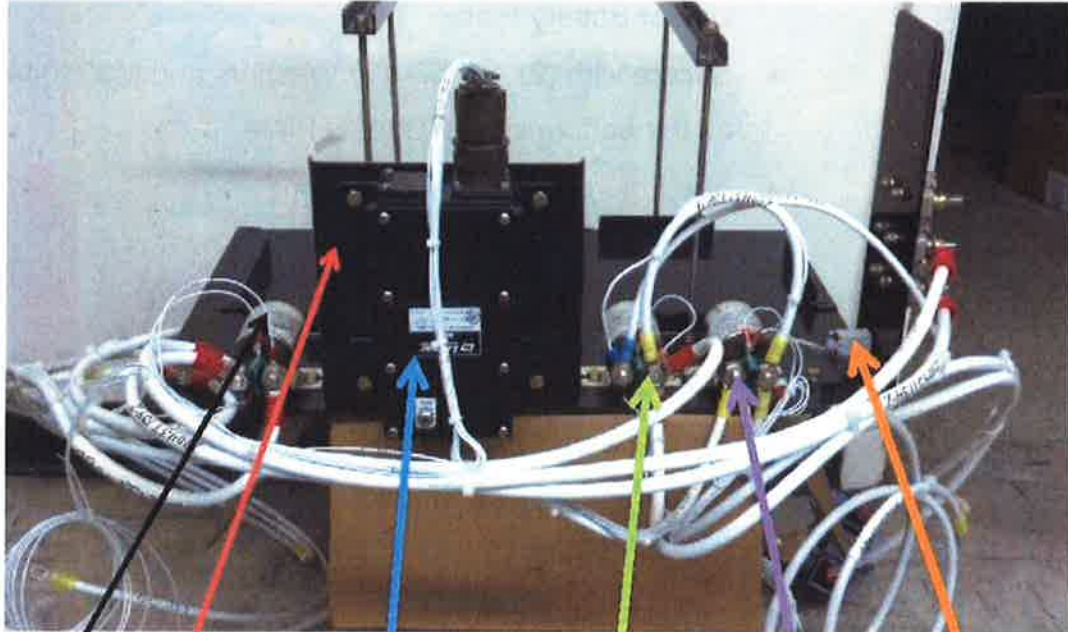
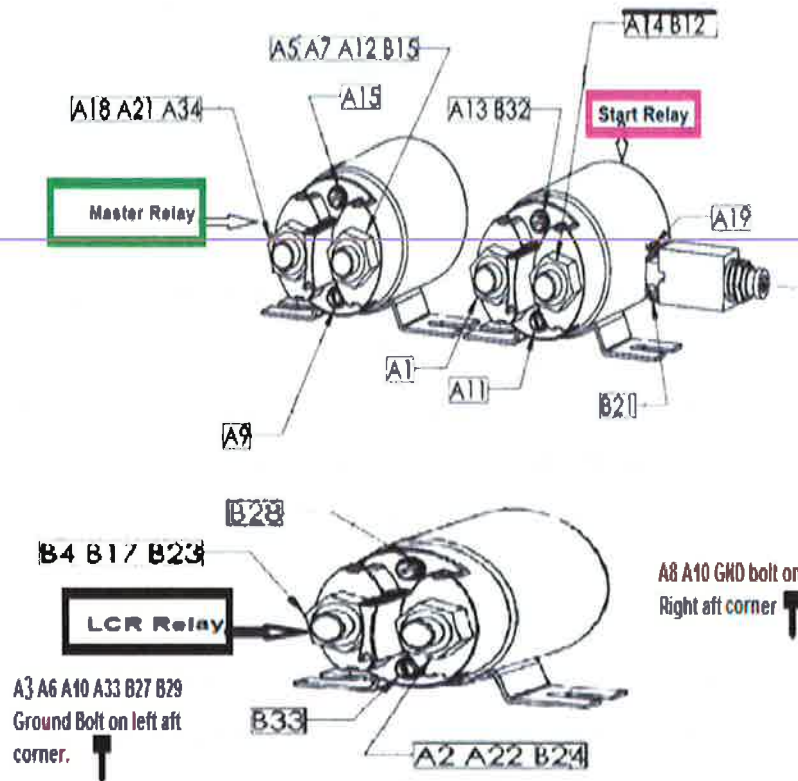
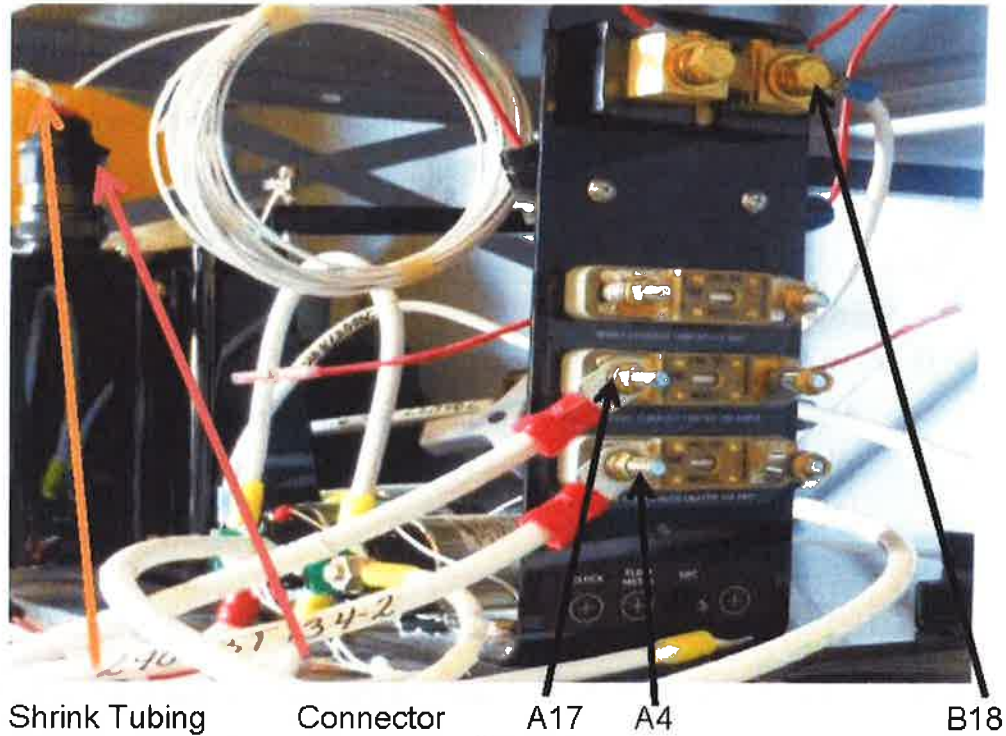

Figure 43-12
Figure 43-15:
Figure 43-15b
- 13.2 Use existing wire labeled 29043-131-2 and connect to terminal A2. A2 is on the LCR Relay. See Figures 43-12 and 14 for component location and Figure 43-15 for terminal identification.
- 13.3 Use existing wire labeled 29043-132-4 and connect to terminal A3 GND. See Figure 43-15 for ground bolt designation.
- 13.4 Use existing wire labeled 29043-134-2 and connect to terminals A4 and B4. A4 is located Current Limiter Plate. See Figure 43-15b for location of A4. B4 is located and on the LCR Relay. See Figures 43-12 and 14 for component location and Figure 43-15 for terminal identification.
- 13.5 Use existing wire labeled 29043-137-2 and connect to terminals A5 and B5. Wire should already be assembled to Quick Disconnect B5. See Figure 43-15 for ground bolt designation. See Figure 43-15a for B5 designation.
- 13.6 Use existing wire labeled 29043-138-2 and connect to terminals A6 GND and B6. Wire should already be assembled to Quick Disconnect B6. See Figure 43-15 for ground bolt designation. See Figure 43-15a for B6 designation.
- 13.7 Use existing wire labeled 29043-140-2 and connect to terminals A8 GND and B . Wire should already be assembled to Quick Disconnect B8. See Figure 43-15 for ground bolt designation. See Figure 43-15a for B8 designation.
- 13.8 Use existing wire labeled 29043-139-2 and connect to terminals A7 GND and B7. Wire should already be assembled to Quick Disconnect B7. See Figure 43-15 for A7 ground bolt designation. See Figure 43-15a for B7 designation.
- 13.10 Use existing wire labeled 29043-156-4 and connect to terminals A12 and B12. A12 is on the Master Relay. B12 is on the Start Relay. See Figures 43-12 and 14 for component location and Figure 43-15 for terminal identification.
- 13.11 Create an 18 AWG wire to connect Terminals A15 to B15. Use a MS25036-102 Lug on one end and a MS25036-105 on the other. Ref 29043-471-18 per MIL SPEC 22759. A15 and B15 are on the Master Relay. See Figures 43-12 and 14 for component location and Figure 43-15 for terminal identification.
- 13.12 Use existing wire labeled 29043-796-2 and connect to terminals A17 and B17. A17 is on the Current Limiter Plate. See Figure 4-15b terminal location. B17 is on the LCR Relay. See Figures 43-12 and 14 for component location and Figure 43-15 for terminal identification.
- 13.13 Use existing wire labeled 29045-845-6 and connect to terminals A18 and B18. A18 is on the Master Relay. See Figures 43-12 and 14 for component location and Figure 43-15 for terminal identification. B18 is on the Current Limiter Plate. See Figure 43-15b for location and terminal identification.
- 13.14 Locate the MS3106F22-19S Connector. See Figure 43-15b for picture of the connector.
- 13.15 Pull and cut and solder the following wires into the connector. Route each wire through an adequate length of MIL123053 13/4 Heat Shrink tubing before soldering into the MS3106F22-19S Connector. See Figure 43-15b for a picture of the tubing. Wiring is in accordance with drawing 29043-K4 and drawing 246010001-IR.
- 13.16 18 AWG @ 36 inches. Solder to Pin A of the MS3106F22-19S Connector. MS25036-105 on other end and then connected to B23 on the LCR Relay. See Figures 43-12 and 14 for component location and Figure 43-15 for terminal identification. Ref 29043-937-18 per MIL SPEC 22759.
- 13.17 18 AWG @ 36 inches. Solder to Pin B of the MS3106F22-19S Connector. MS25036-105 on other end and then connected to B24 on the LCR Relay. See Figures 43-12 and 14 for component location and Figure 43-15 for terminal identification. Ref 29043-938-18 per MIL SPEC 22759.
- 13.19 16 AWG @ 36 inches. Solder to Pin G of the MS3106F22-19S Connector. MS25036-105 terminal lug on other end and then connect to B27. See Figure 43-15 for ground bolt designation. Ref 29043-941-16 per MIL SPEC 22759.
- 13.20 18 AWG @ 36 inches. Solder to Pin H of the MS3106F22-19S Connector. MS25036-102 on other end and then connect to B28 on the LCR Relay. See Figures 43-12 and 14 for component location and Figure 43-15 for terminal identification. Ref 29043-942-18 per MIL SPEC 22759.
- 13.21 18 AWG @ 36 inches. Solder to Pin J of the MS3106F22-19S Connector. MS25036-150 on other end and then connect to B29. See Figure 43-15 for ground bolt designation. Ref 29043-943-18 per MIL SPEC 22759.
- 13.25 18 AWG @ 6 inches. MS25036-102 connected to B33 on the LCR Relay. See Figures 43-12 and 14 for component location and Figure 43-15 for terminal identification. MS25036-150 on the other end connected to A33 Gnd. See Figure 43-15 for ground bolt designation. Ref 29043-947-18 per MIL SPEC 22759.
- 15.3. Locate existing wire labeled 29043-910-20 and which is already connected to terminal B21 on the EDC Breaker., Bottom Terminal on the on the Master Relay. See Figures 43-12 and 14 for component location and Figure 43-15 for terminal identification. All wires are MIL SPEC 22759.
- 15.24.** Slide the shrink tubing up on the MS3106F22-19S connector. See Figure 43-15b.
- 15.25.** Apply RTV 106 (MIL-A46106B) Red Sealant between Wires that were soldered into the connector and Heat Shrink Tubing. See Figure 43-15b.